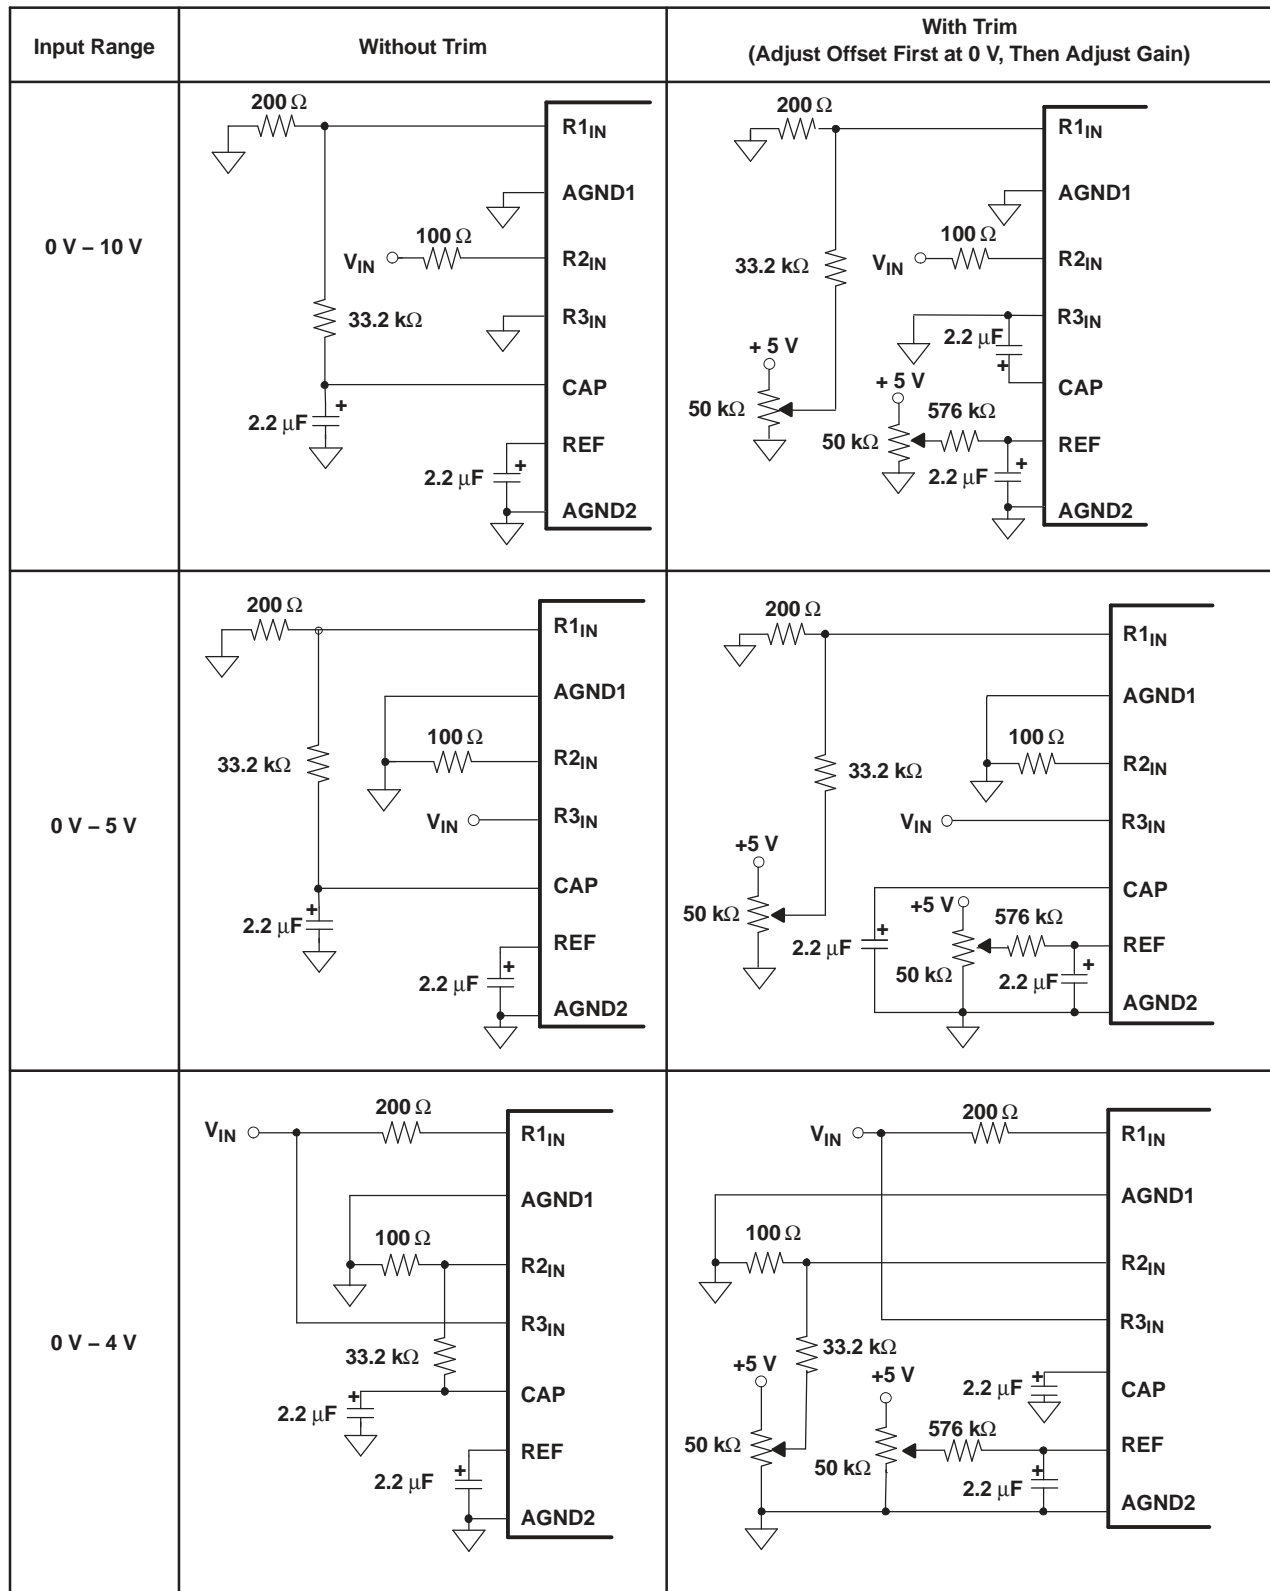
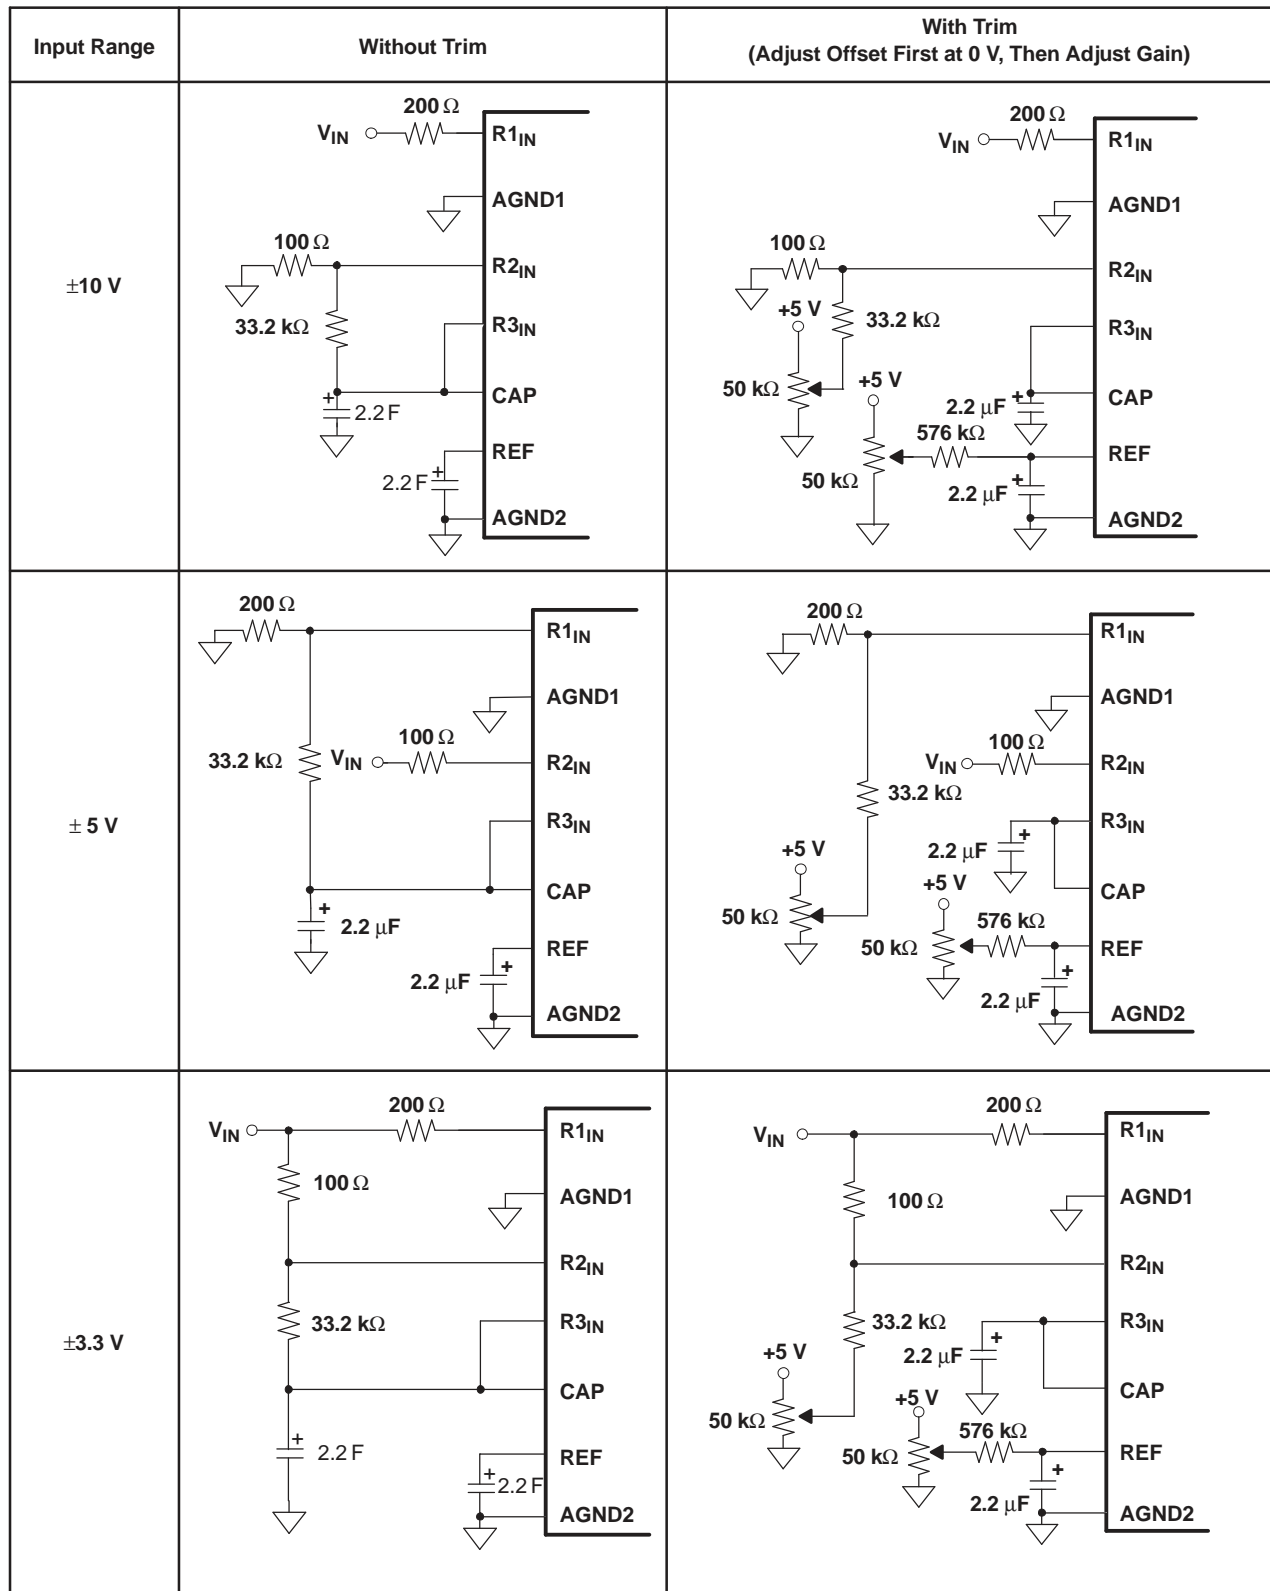

Figure 29. Offset/Gain Circuits for Unipolar Input Ranges
Figure 30. Offset/Gain Circuits for Bipolar Input Ranges
**Table 2. Input Range Connections (See Figure 29 and Figure 30 for Complete Information)**